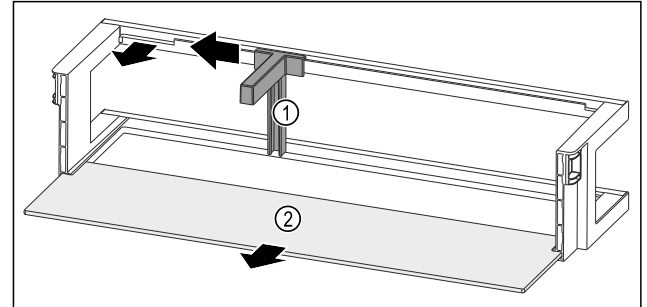

Fig. 85 Door racks with bottle holder and shelf
- Push the bottle holder Fig. 85 (1) to the side up to the recess.
- Remove the bottle holder Fig. 85 (1).
- Remove the shelf Fig. 85 (2).